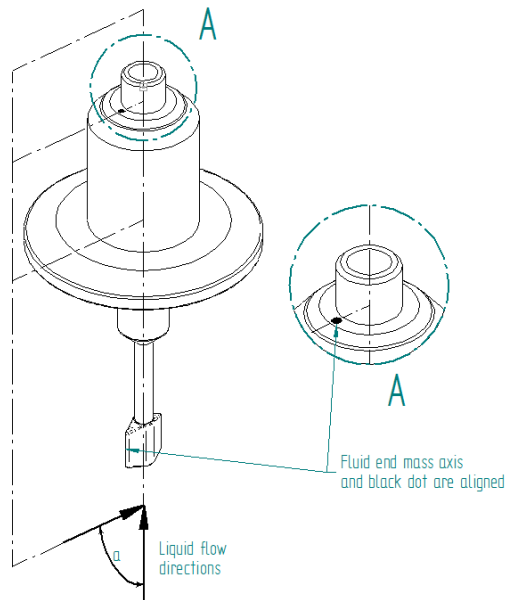

Figure 3: The black dot on the M12 connector indicates the long axis on the SRD tip for proper installation.
7. The flow around the SRD tip must be parallel, axial or anything between the two (angle  $a$  in figure 4  $0^\circ \geq a \geq 90^\circ$ ). Perpendicular flow must be avoided because it hinders the cleaning process, as shown in figure 3.